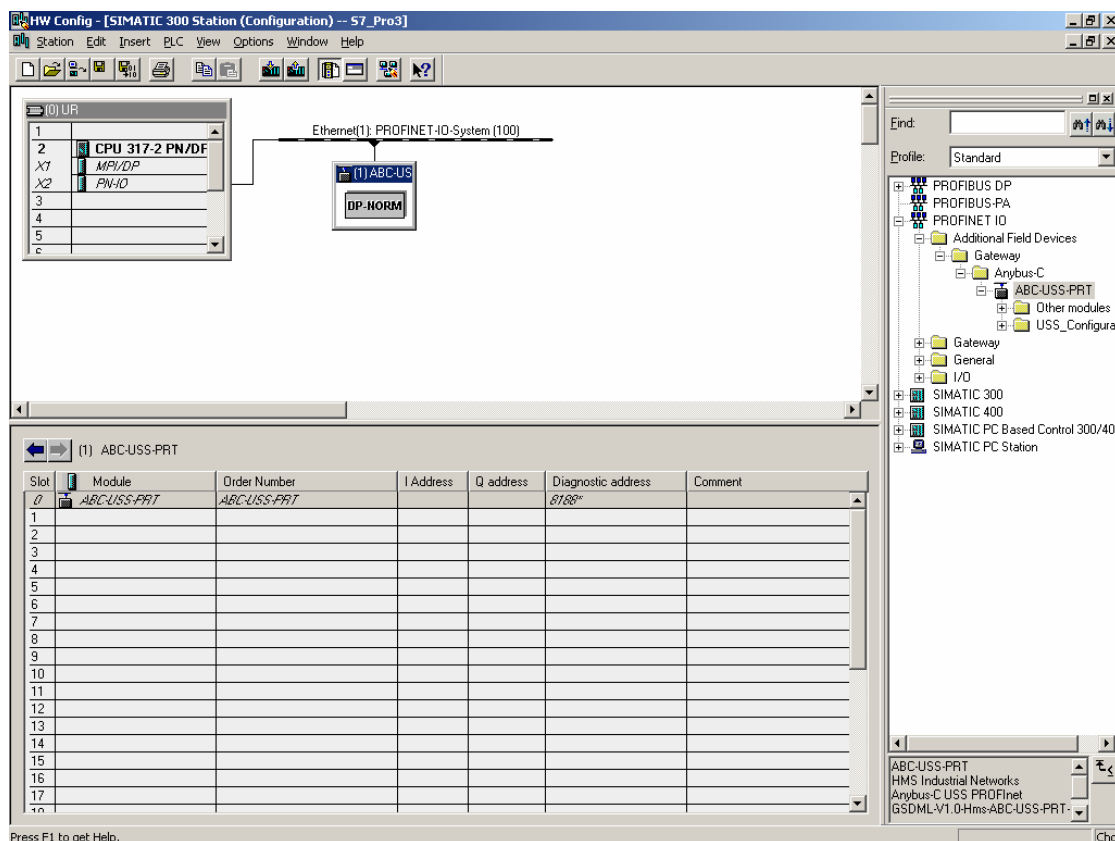

Figure 9
5. Drag and drop the ABC-PRT-USS into the network as shown in figure 9